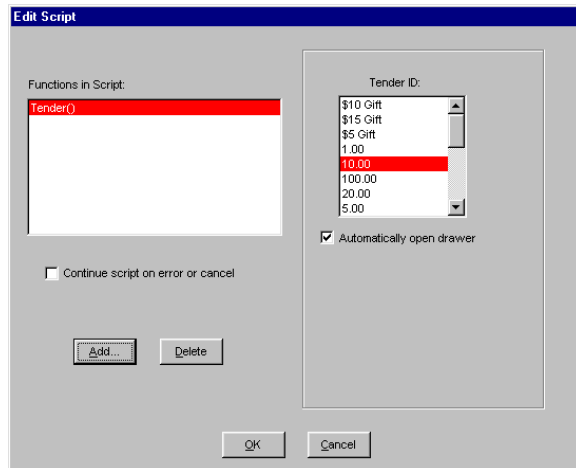

Figure 5-106 Edit Script (Tender Function)
5. Select **Tender** from the list box and click **OK**. The Edit Script dialog box returns with the function displayed in the **Functions in Script** list box and the attributes displayed on the right, as shown in Figure 5-106: